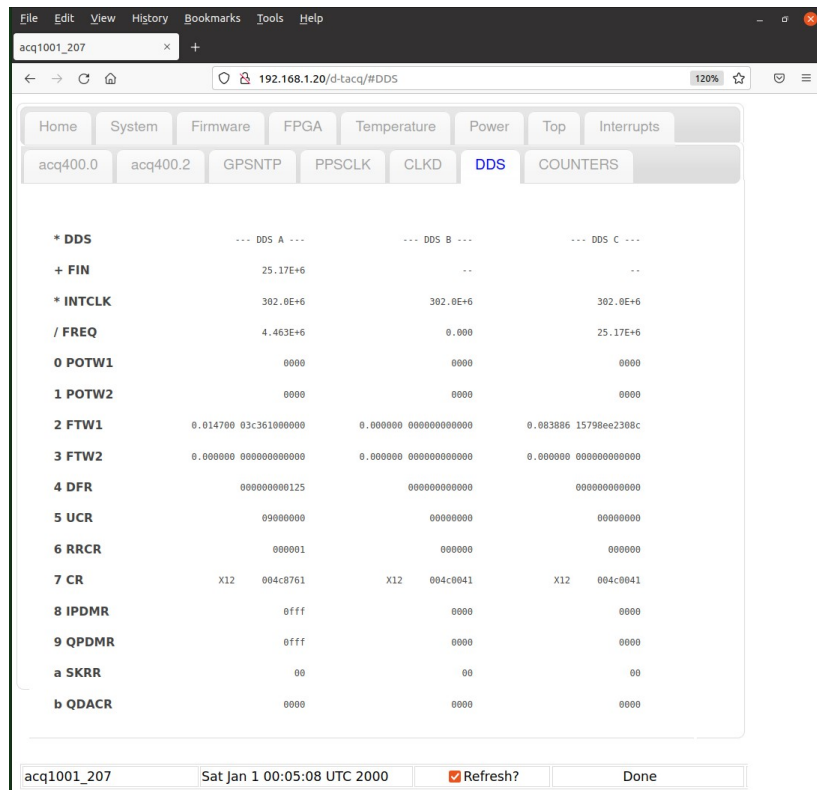

Figure 2. Diagnostic page with DDS registers read-back.
The firmware allows programming all operations of the digital synthesizer, including chirping, calibration tones and full-bandwidth call-sign broadcast, using a single ethernet web server interface, configured through the Dynamic Host Configuration Protocol (DHCP; Figure 2). The actual settings of the digital synthesizers are continuously read back from the DDS registers and displayed on a separate diagnostic web page (Figure 3).
14. click on "Status", verify that a popup screen similar to figure 2 is obtained and that the entry shown for ---DDS-A--- under /FREQ displays the expected factory-configured frequency.